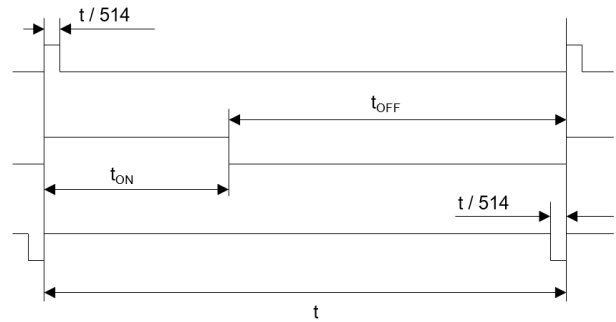

Figure 30: PWM Output Timing, Top Signal = 0°; Bottom Signal = Full Scale (i.e. 360° (1 - 1/16384))
This output provides a logic signal with a duty cycle proportional to the angle of the magnetic field. For the PWM frequency (f_{PWM}), see the General Characteristics section on page 5. The duty cycle is bound by a minimum value (1/514 of the period) and a maximum value (513/514 of the period), so it varies from 1/514 to 513/514 with a resolution of 14 bits (see Figure 30). The angle can be obtained by measuring the on time. Since the absolute f_{PWM} can vary from chip to chip or with the temperature, accurate angle detection requires measuring the duty cycle (i.e. measuring both the on time (t_{ON}) and the off time (t_{OFF})). The angle can be calculated with Equation (8):
Figure 30 shows one period of the PWM signal. The period (t) is $1 / f_{PWM}$.